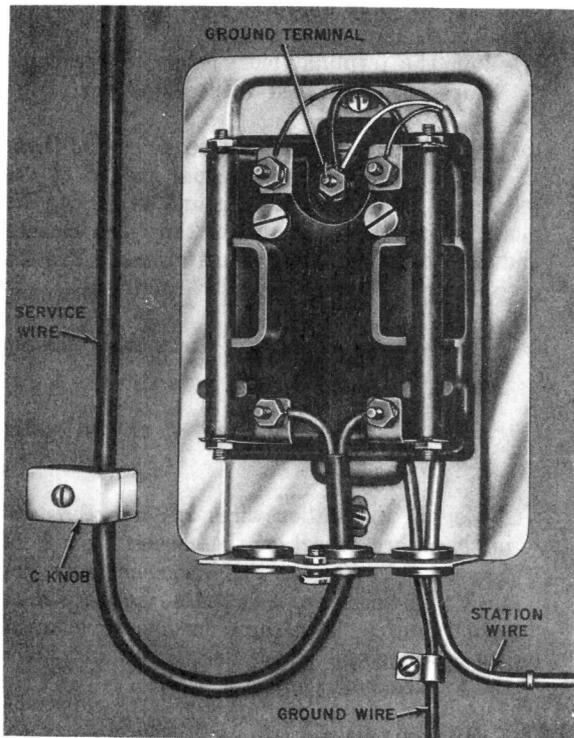
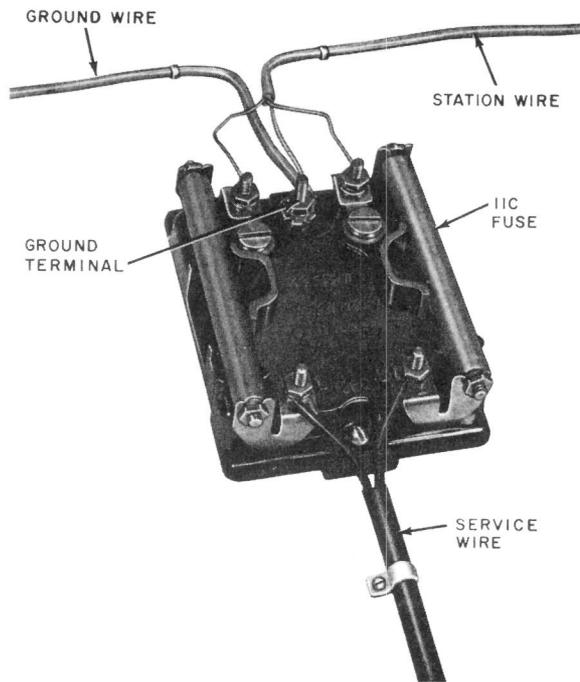

Fig. 30—1293C Protector, Cover Removed
Fig. 31—106C Protector
5.01 The 1293C protector (Fig. 30) is used for outdoor installations, and the 106C protector (Fig. 31) is used for indoor installations. These